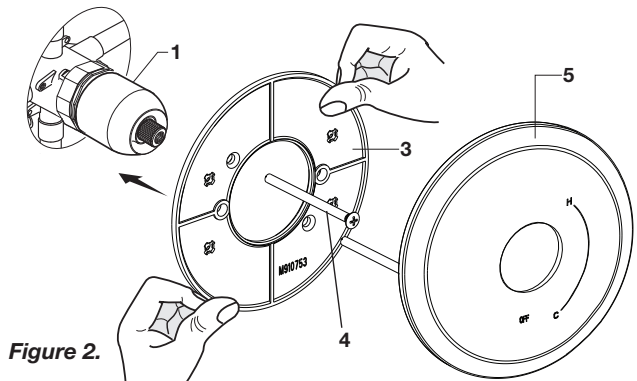

Figure 2.
- **Figure 2.** Push MOUNTING PLATE (3) onto CAP (1) and attach to valve body with LONG SCREWS (4).
- **Figure 2.** Push ESCUTHCHEON (5) on to MOUNTING PLATE (3).